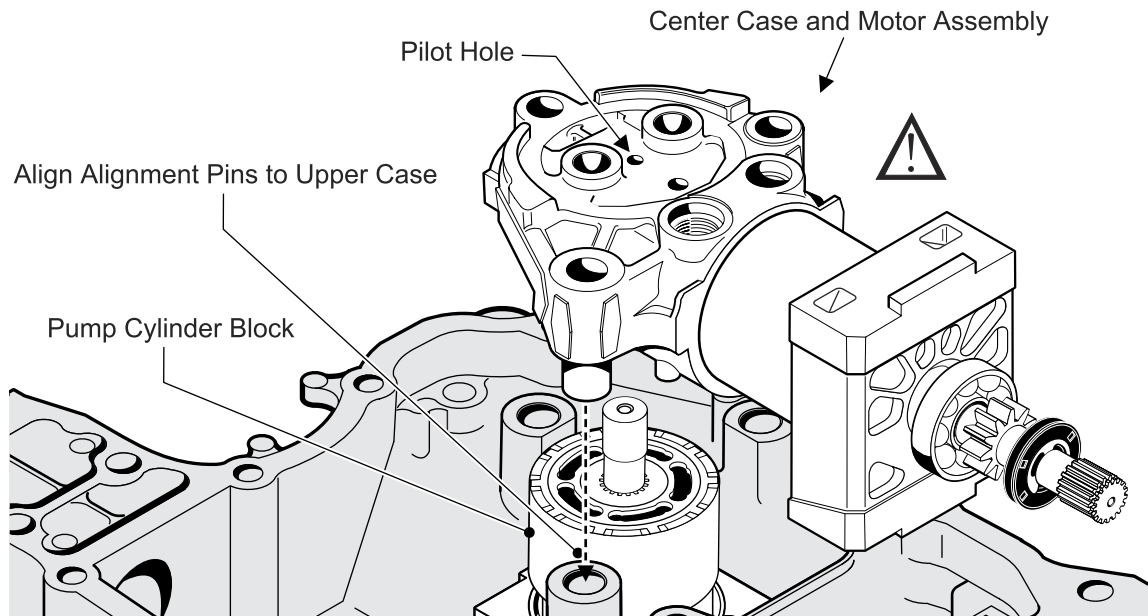

Fig. 35, Hydrostatic Pump and Motor Assembly
3. Install the Motor Shaft and Center Case assemblies into Upper Case as a single unit. (Fig. 35)